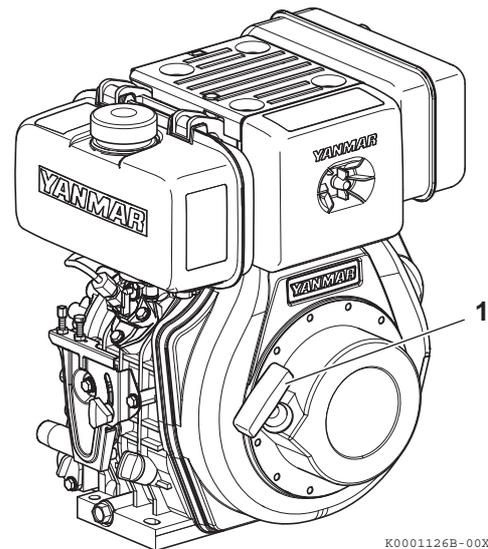

Figure 7
1. Grasp the recoil starter handle (**Figure 7, (1)**).
5. Grasp the recoil starter handle (**Figure 7, (1)**).